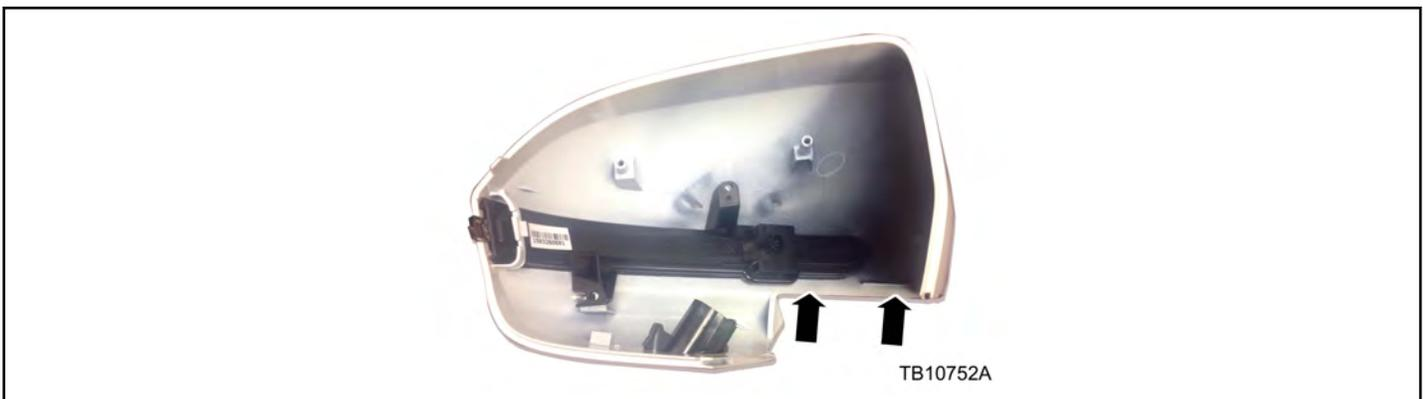

Figure 5 - Article 15-0159
5. Disconnect the two (2) electrical connectors.
6. Clean the location shown in the figure with Isopropyl Alcohol. (Figure 5)